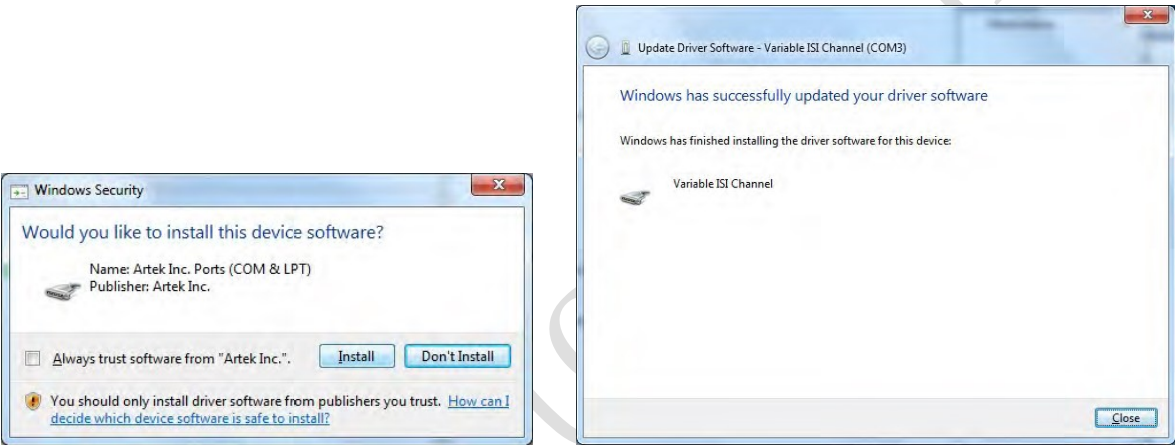

FIGURE 45. WINDOWS SECURITY WINDOW AND CONFIRMATION WINDOW
- d) Click **Next** and then click **Install** to complete installation for the driver software (see Figure 45).